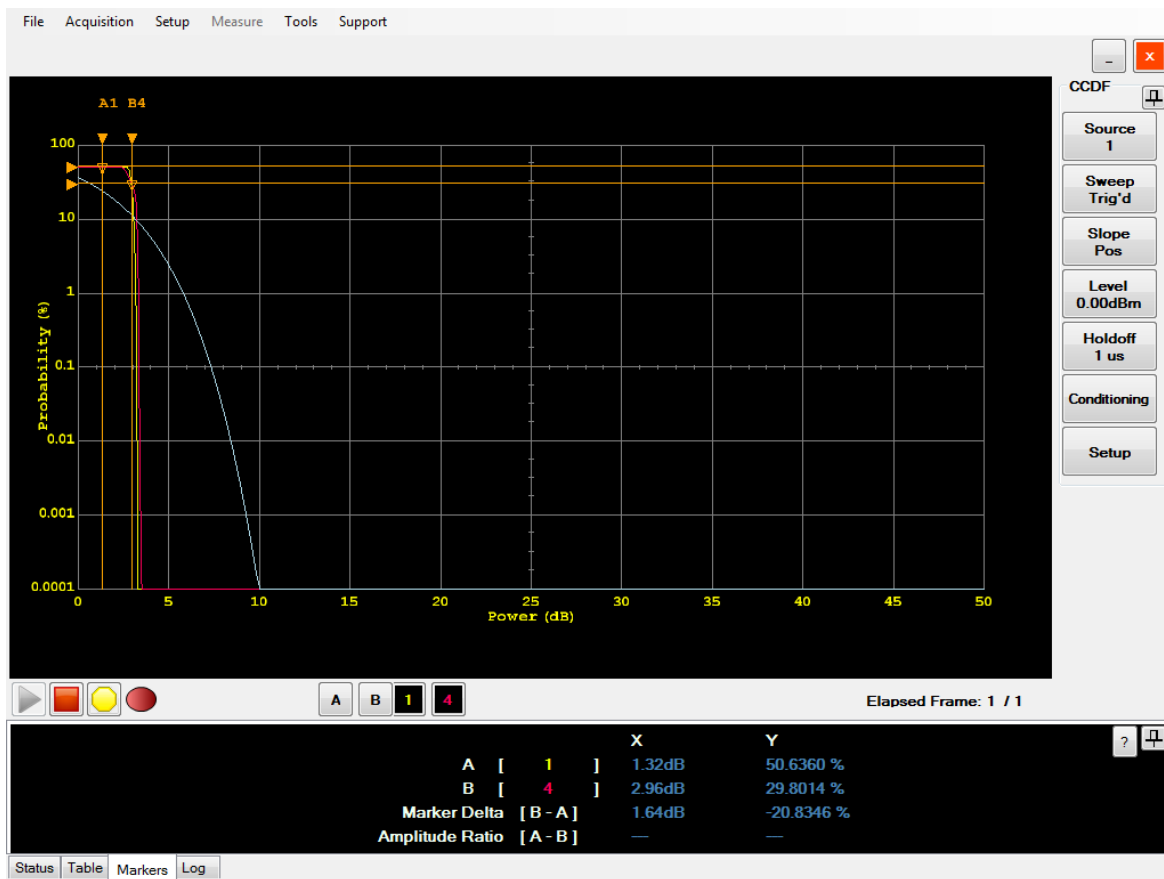

Figure 2-84 Marker view in CCDF
- 4 The Marker view displays the X-axis and Y-axis values for the markers, and the delta values between the two markers that you enabled on the trace as shown in Figure 2-84.